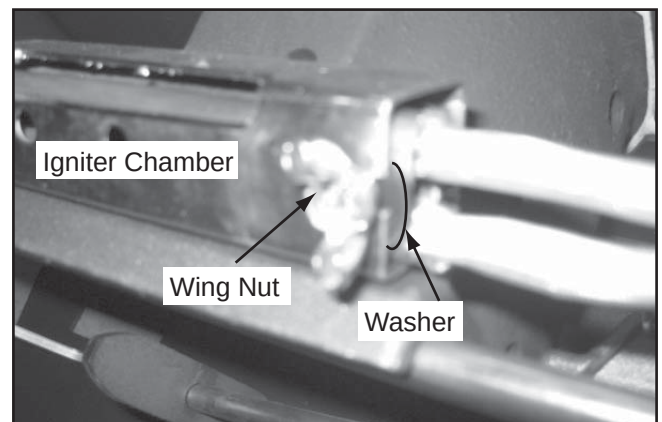

Figure 4
- The igniter is fastened to the igniter chamber with a wing nut. Loosen the wing nut until the igniter slides free from the igniter chamber. **Figure 4.**
- Install the new igniter into the chamber and place the washer between the igniter base and the inside of the igniter chamber. **Figure 4.**